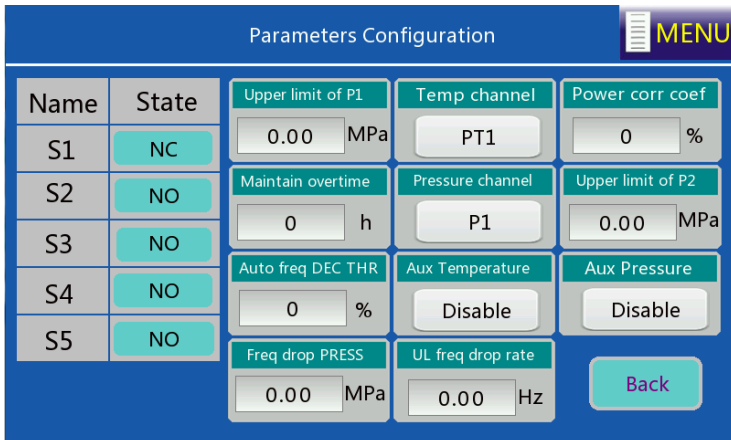

Figure 4-8 System parameter configuration interface
Step 3 Click **Next** to enter **Parameters Configuration** or click **Back** to return to system configuration. On the system configuration interface, click **System Para Config**. S1 functions as emergency-stop switch, select **NO** or **NC** based on the polarity of the emergency-stop switch, as shown in Figure 4-8. When S2 functions as motor overtemperature, select **NC** based on the polarity.